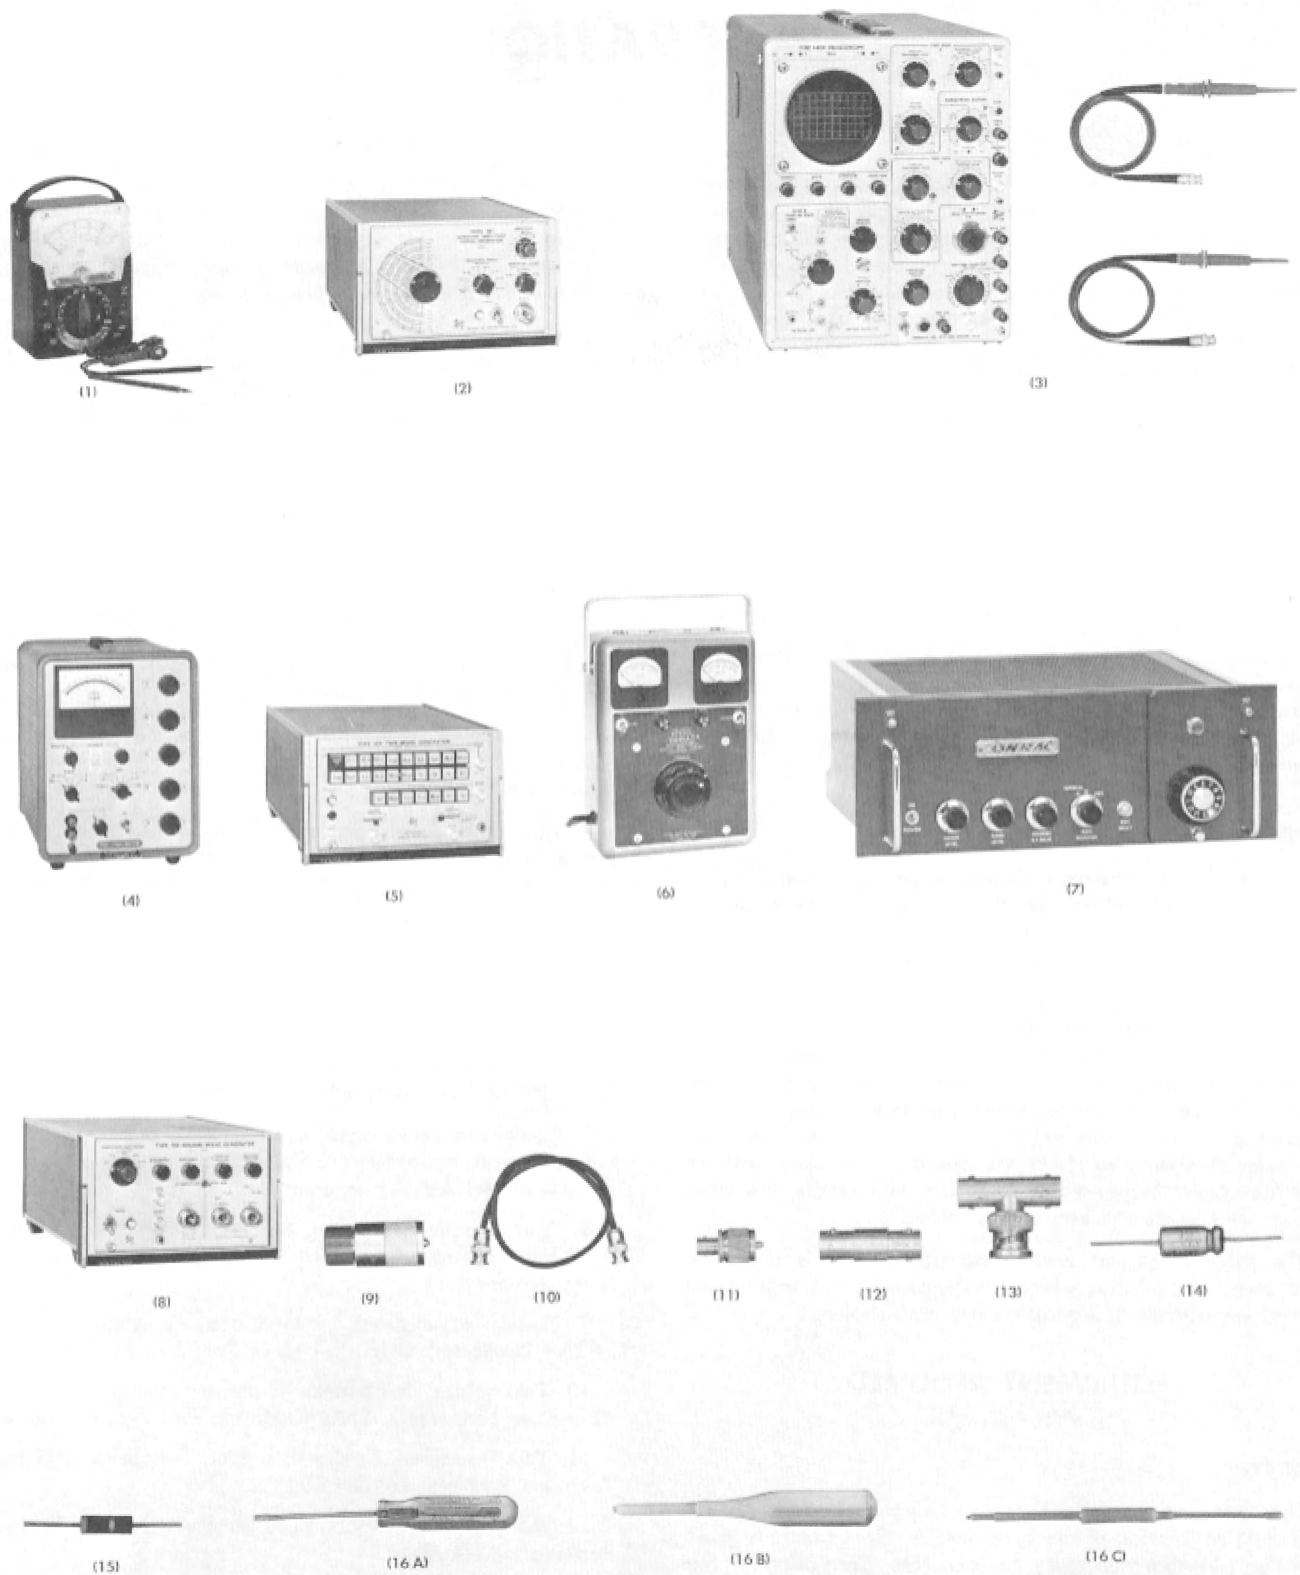

Fig. 6-1. Recommended calibration equipment.
(see Fig. 6-1)
- 16. Adjustment tools (see Fig. 6-1).